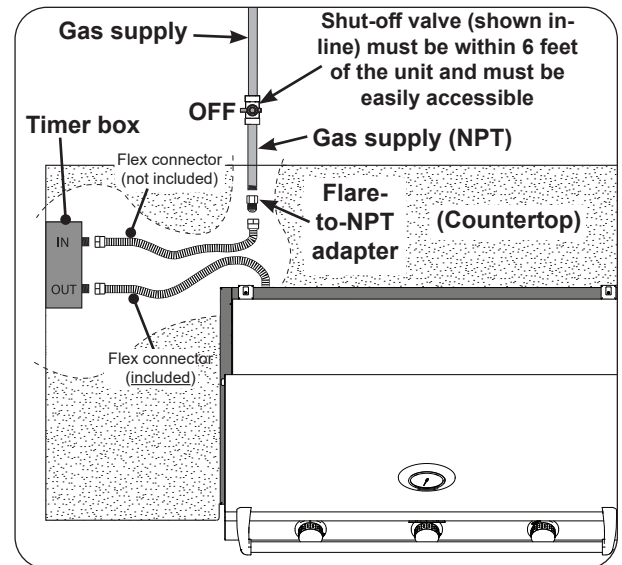

Fig. 25-2 Household LP & Nat. gas diagram
3. Using two wrenches, connect the flex connector coming from the grill to the  $1/2$ " **flare adapter labeled OUT**. See Fig. 25-2. Ensure the connection is tightened securely.
4. **Connect gas source to IN:** Using two wrenches, connect a flex connector (not included) to the  $1/2$ " **flare adapter labeled IN**. See Fig. 25-2. Ensure the connection is tightened securely.
5. Route the flex connector coming from the timer box to the gas supply stub (see Fig. 25-2).